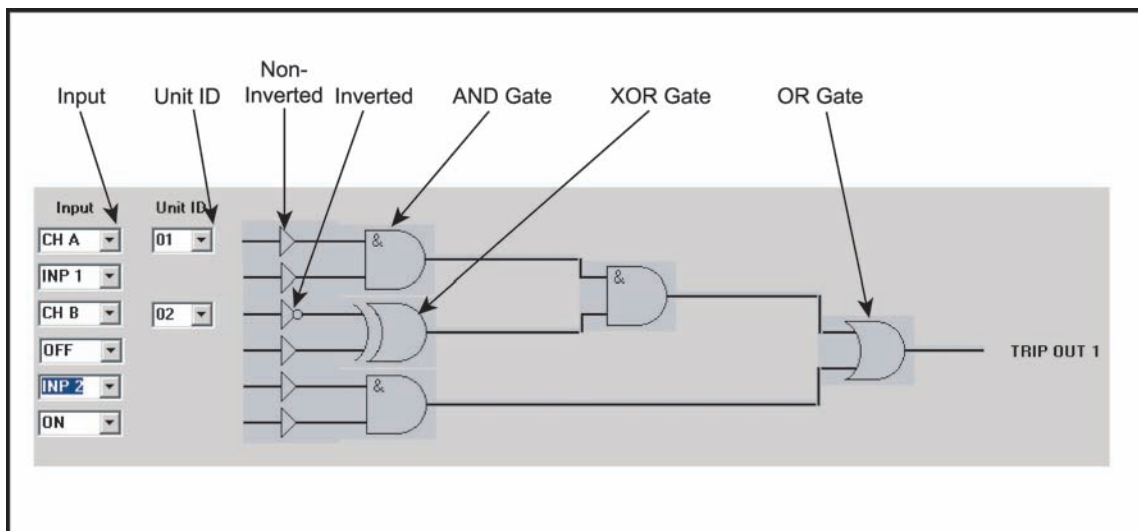

Figure 5-4. RX Logic Description
18. To program the Trip outs, choose the desired input from the pull down menu. If the input is to be inverted click on the arrow to the right of the input and a circle is added to the tip of the arrow to indicate the input is inverted. If a Trip or Guard is selected a Unit ID field will appear. Enter the Unit ID number of the remote unit whose channel the Trip is being received from. The inputs are gated. Program the gates by clicking on the symbol. Each time the symbol is clicked it will change from AND, OR, then XOR (see Figure 5-4 for symbol description). All the gates are programmed in the same way. The Trip output then passes through the receive timer logic (described later in this section). To turn the Trip Out Off, turn Off all six of the inputs.